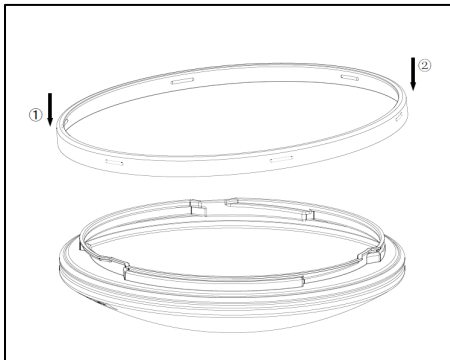

Figure 6
3. Install the black deco trim from the top opening side of diffuser and make sure deco trim is secured onto the diffuser. (See Figure 6).